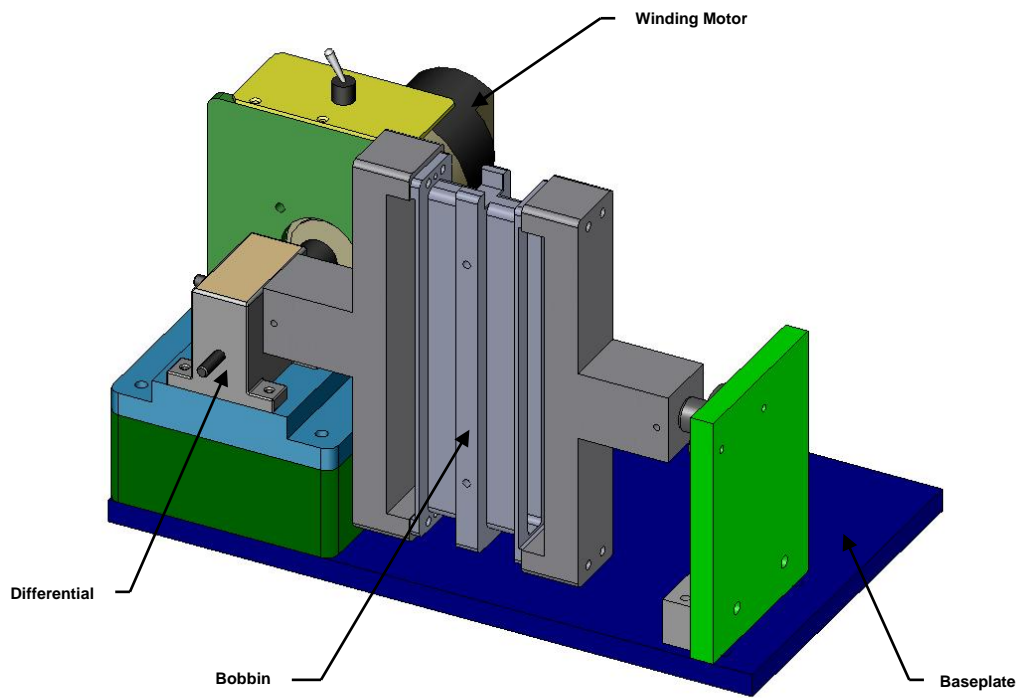

Figure 1: Bobbin Winding Tooling
40. Measure the end-to-end DC resistance of the mag-wire. Verify that it measures within the range listed in E1800363 Figure 1. Verify there the mag-wire is not shorted to the aluminum bobbin.